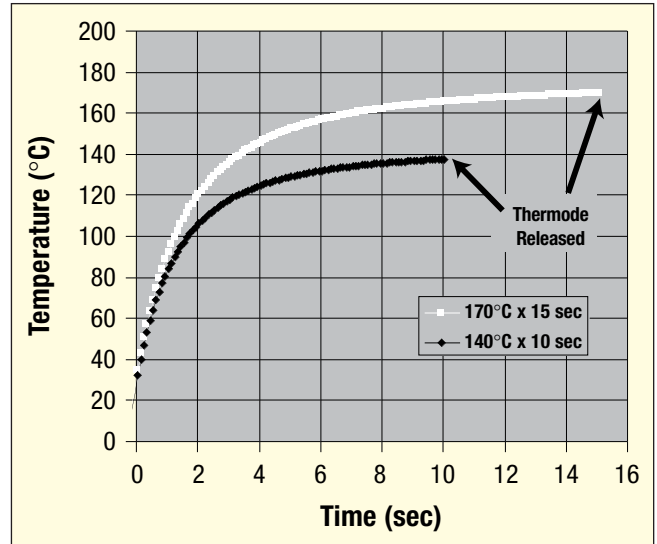

Figure 1. Graph of ACF temperature vs. time profile showing typical examples of bonding cycle.
Final bonding must be done under heat and pressure, with a typical desirable bond line temperature that reaches at least 140°C after 10 seconds at a pressure of at least 10kg/cm2 (see Table above). This has been achieved using a total bond time of 10-20 seconds where over the first 3-5 seconds the adhesive ramps quickly to near the target temperature and over the last 5-17 seconds the temperature reaches between 140°C and 170°C.(15) A plot of the temperature vs. time profile is shown in Figure 1. Electrical contact between the circuits is typically achieved shortly after the thermode is pressed against the parts. Additional time at temperature is necessary to cross-link the thermoset-elastomer material to generate peel strength and the ultimate reliability. Bond times may vary depending upon the substrates to be bonded. (Optionally, for maximum mechanical and electrical performance, the pressure may be maintained while cooling to below 100°C. This increases the total bond time. The time required to drop adhesive bond-line temperature below 100°C is highly dependent on the bonding equipment used.)